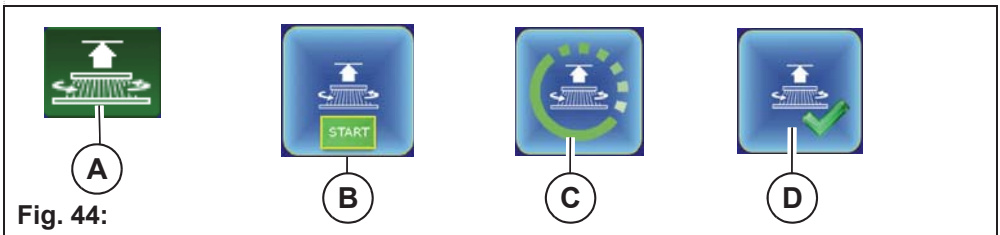

Fig. 44:
5. Select soft key *Insert brushes* **Fig. 44-A** with the turn-push knob and confirm. The action window **Fig. 44-B** opens. Confirm the start with the turn-push knob.
The procedure starts and symbols **Fig. 44-C, D** appear on the MFD one after the other. Only now is the procedure complete.